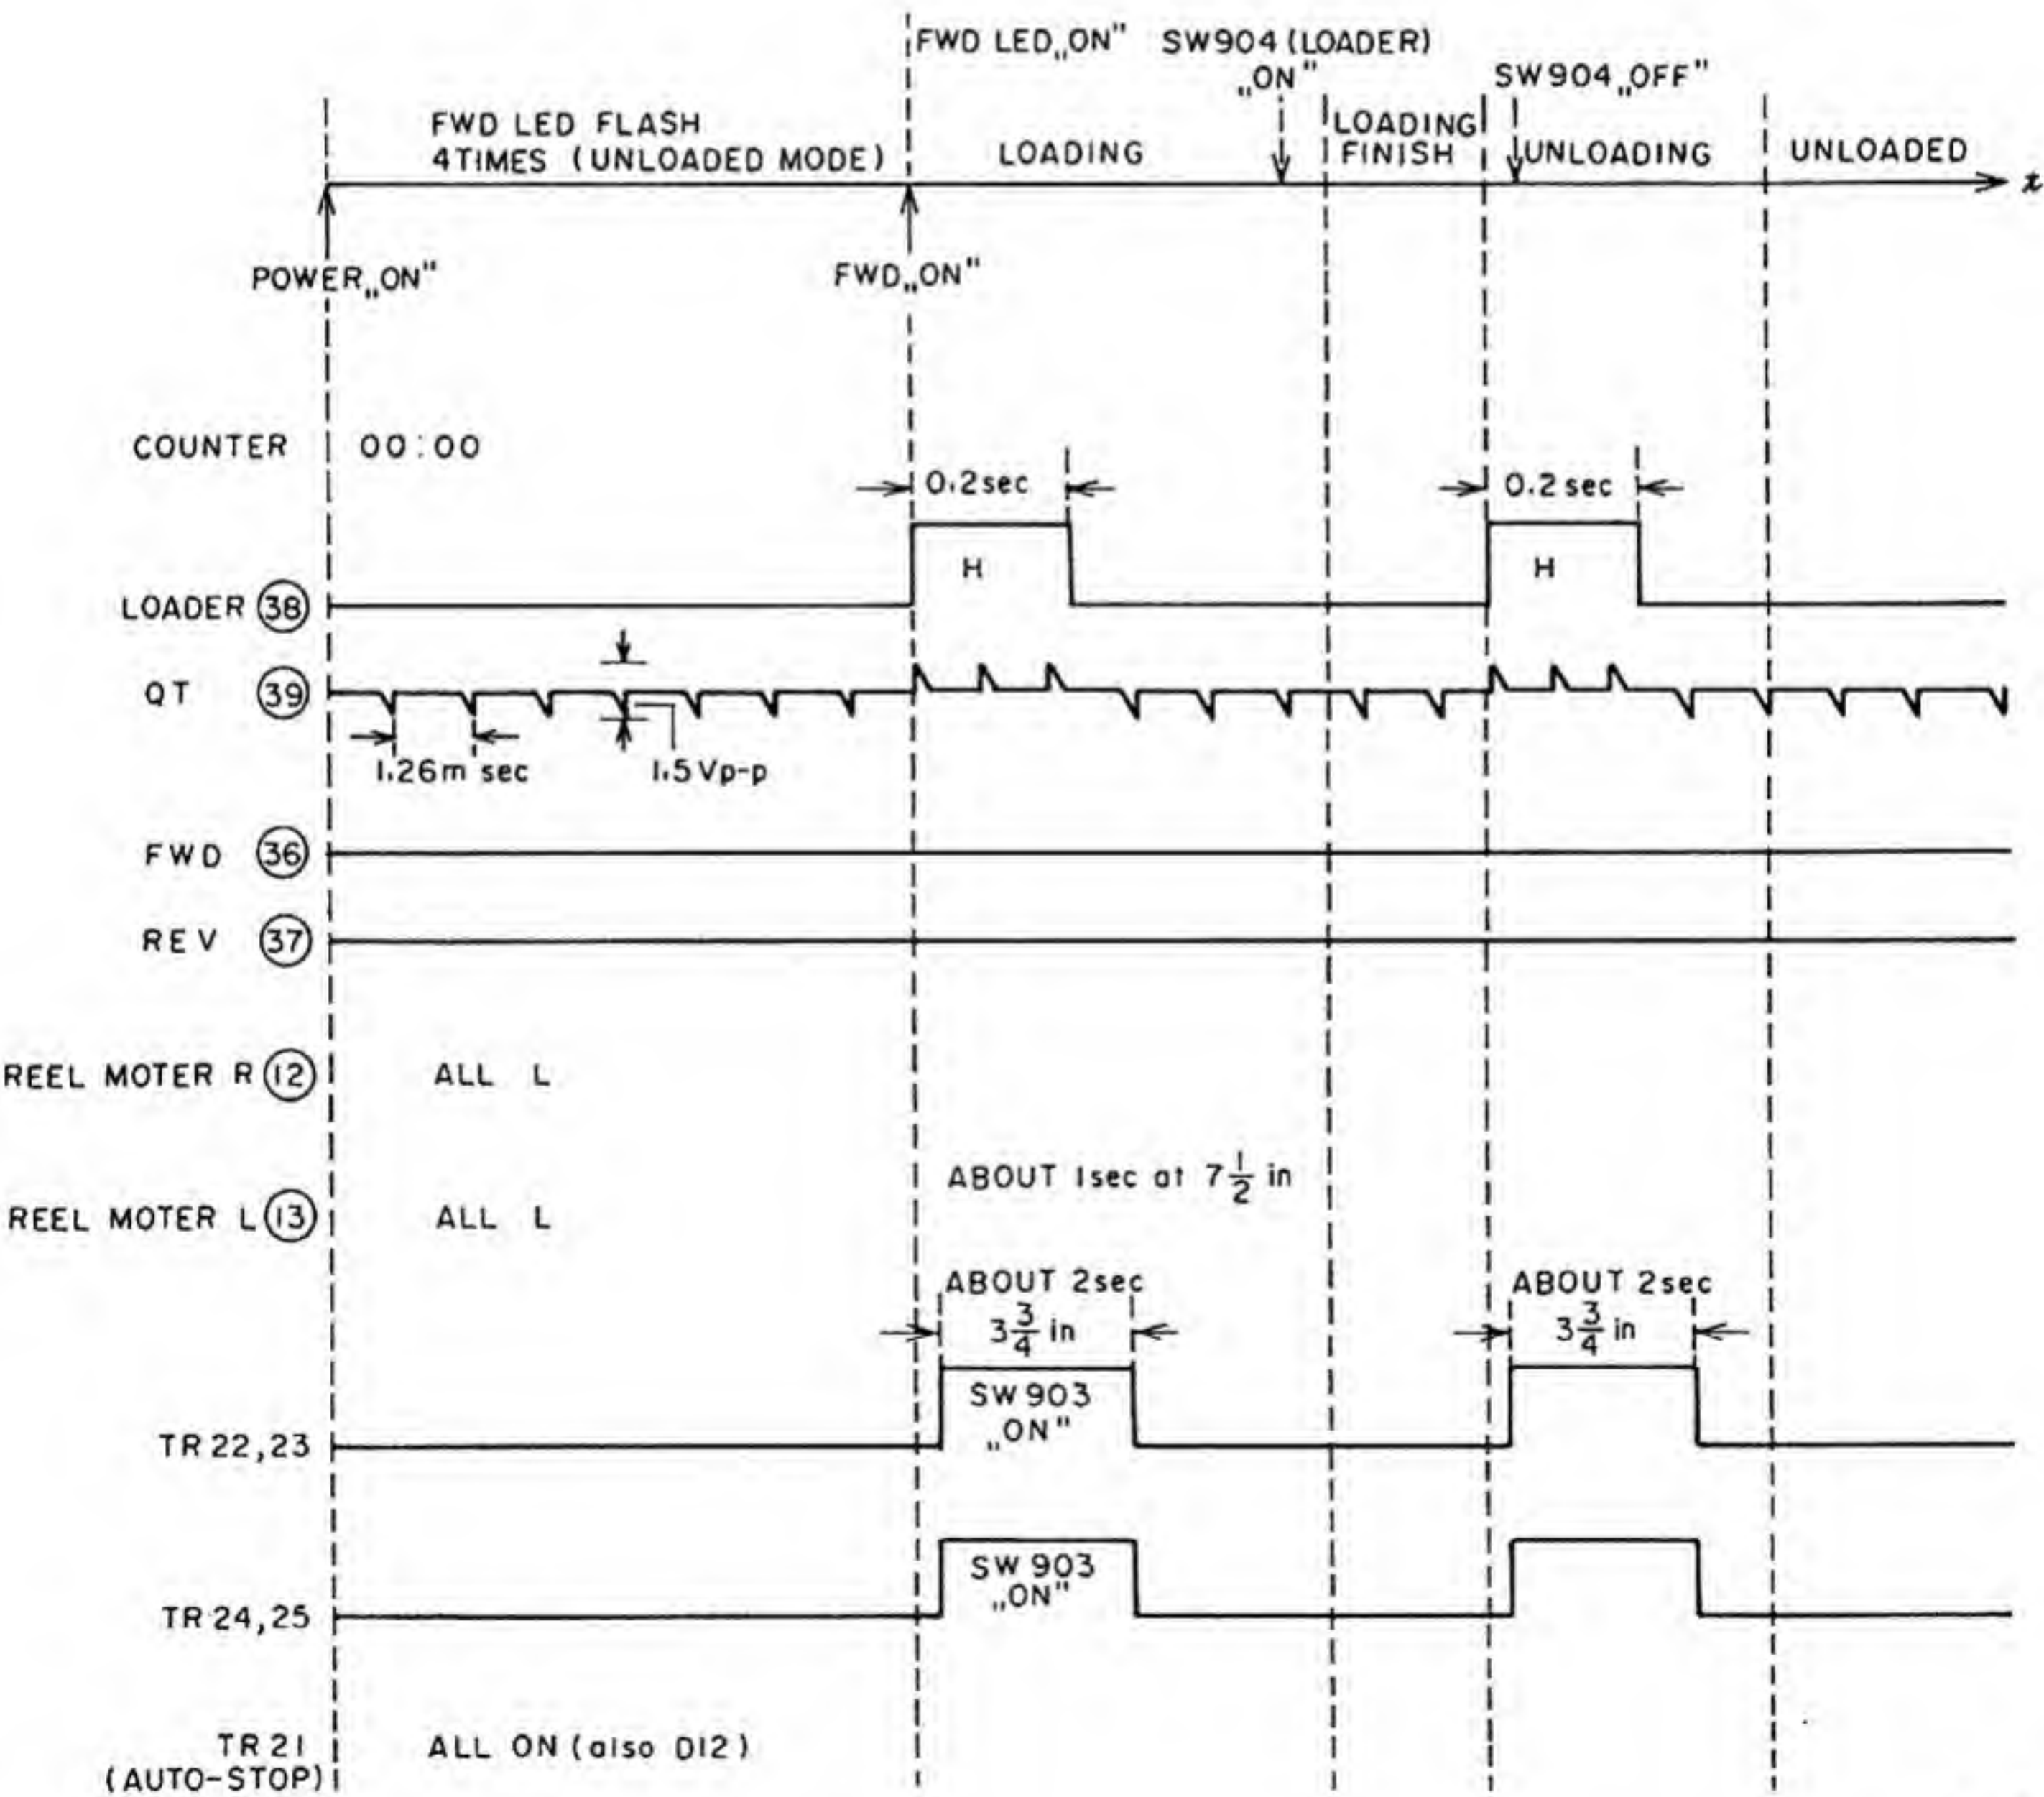

Fig. 8
2) Timer Start Off (no tape) SW904 (tension off) (Refer to Fig. 8)